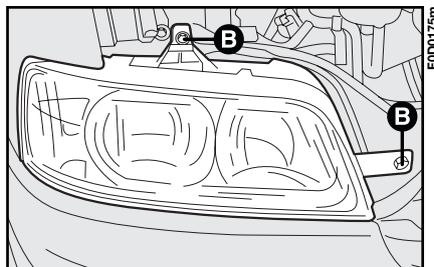
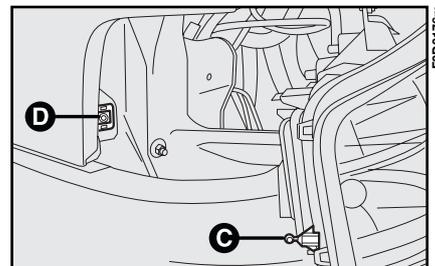

fig. 10
fig. 11
- 2) loosen the two fastening screws **B**-fig. 10 and remove the headlight releasing pin **D**-fig. 11 from **C**;